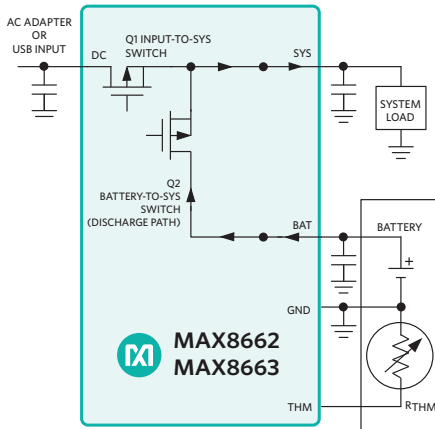

Figure 7. Power Path When $I_{LOAD} > I_{DC}$
- a) When the system load requirements exceed the capacity of the external power input (Figure 7), the battery supplies supplemental current to the load.